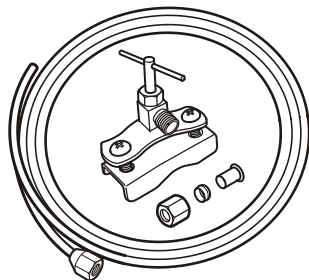

Figure 13
- Use a 1/4" OD copper line to connect the water supply to the solenoid valve. **This is not supplied with the appliance (Figure 13).**